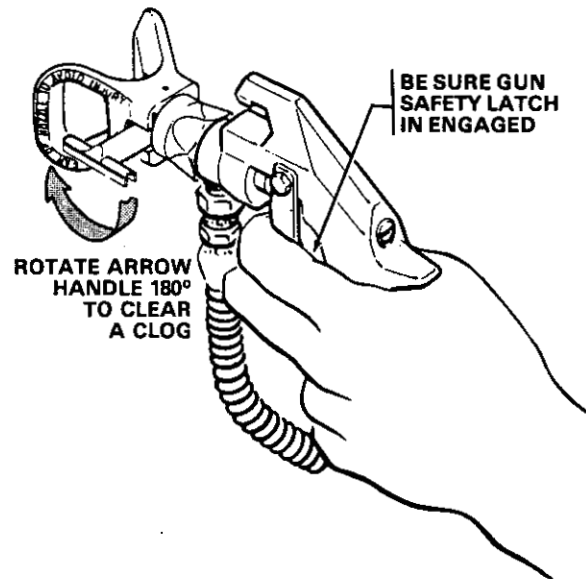

Fig 5
2. Install the Tip Guard and SwitchTip (Refer to Fig 5.)
- c. Test the spray pattern. To adjust the direction of the spray pattern, engage the gun safety latch and loosen the tip guard retaining nut. Position the tip so the groove is horizontal for a horizontal pattern or vertical for a vertical pattern. Then tighten the retaining nut. Refer to Fig 5.
- If the spray tip does clog, release the gun trigger, engage the gun safety, and rotate the spray tip handle 180°, so the arrow points back to the gun. See Fig 5.